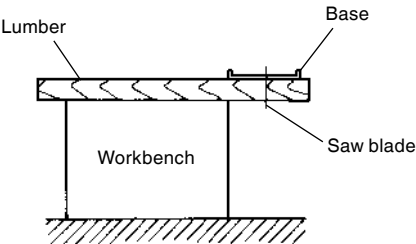

Fig. 2
5. **Prepare a wooden workbench (Fig. 2)**
#### 6. How to store the hex. bar wrench (Fig. 2)